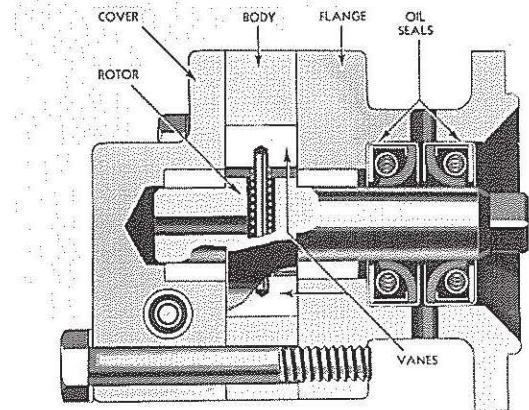

FIG. 7
2. Install new seals in pump flange; locate seals as shown in Fig. 7; that is, with leather or inner seal pointing toward squared end of rotor shaft. Drive outer seal down tight against bottom of seal cavity and inner seal down to within approximately 1/16" from outer seal using special tool.